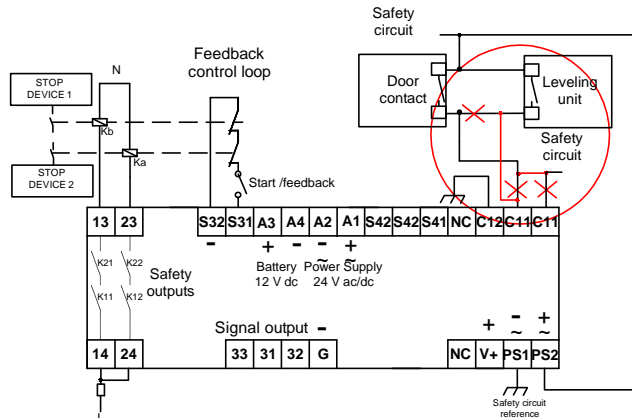

FIG. 6 Uncontrolled movement test
- 4) Change the electrical connection as indicated in fig.6